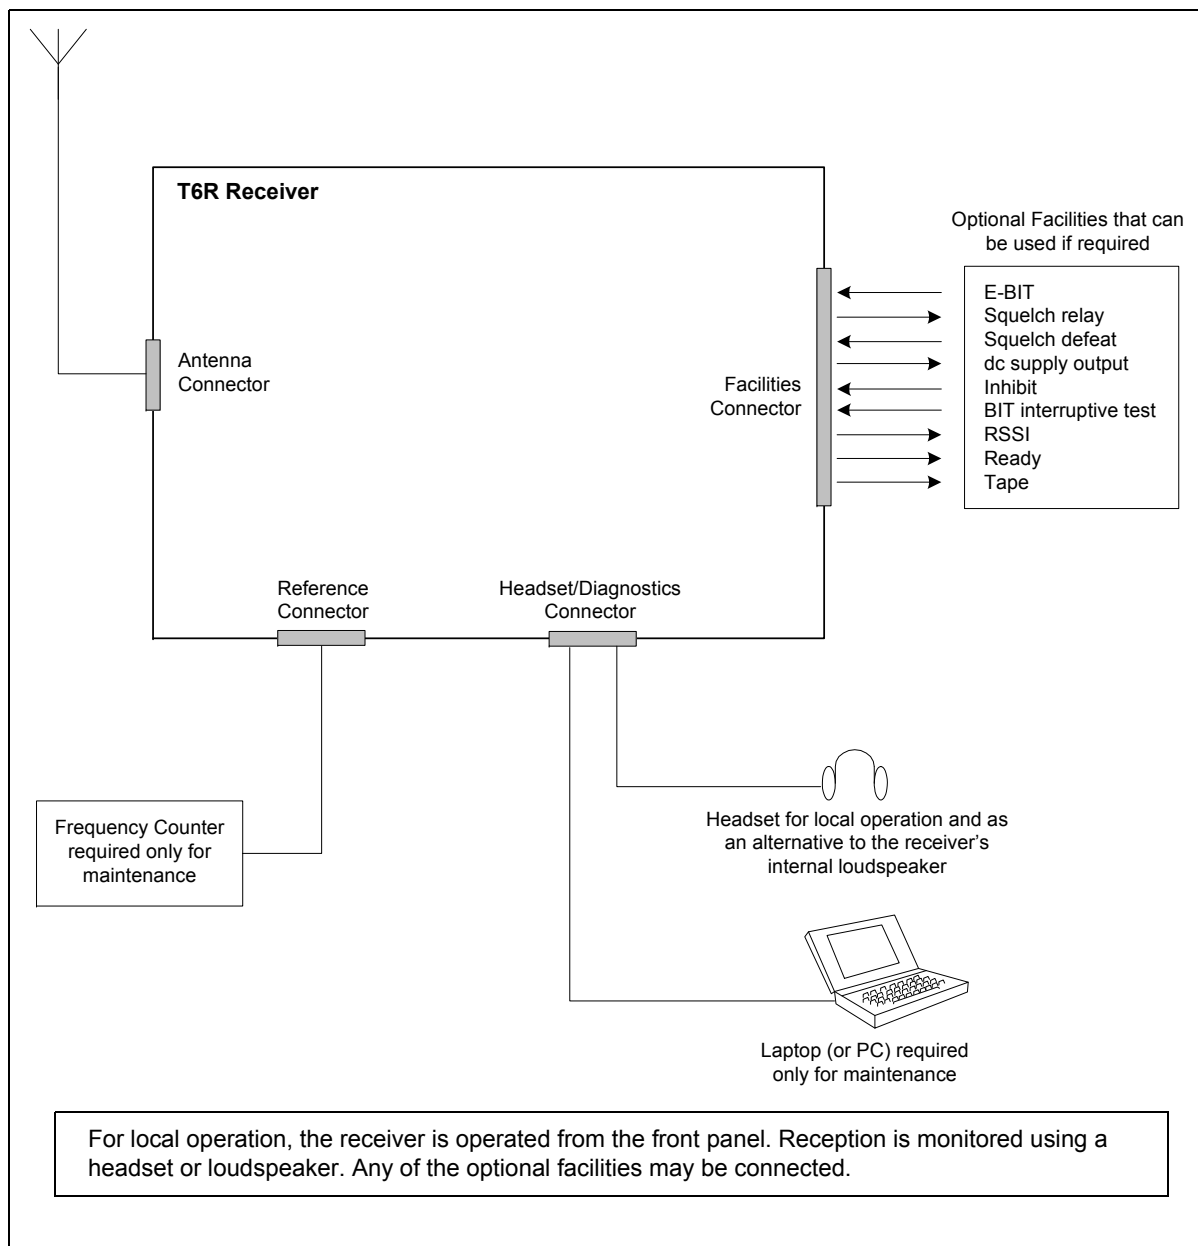
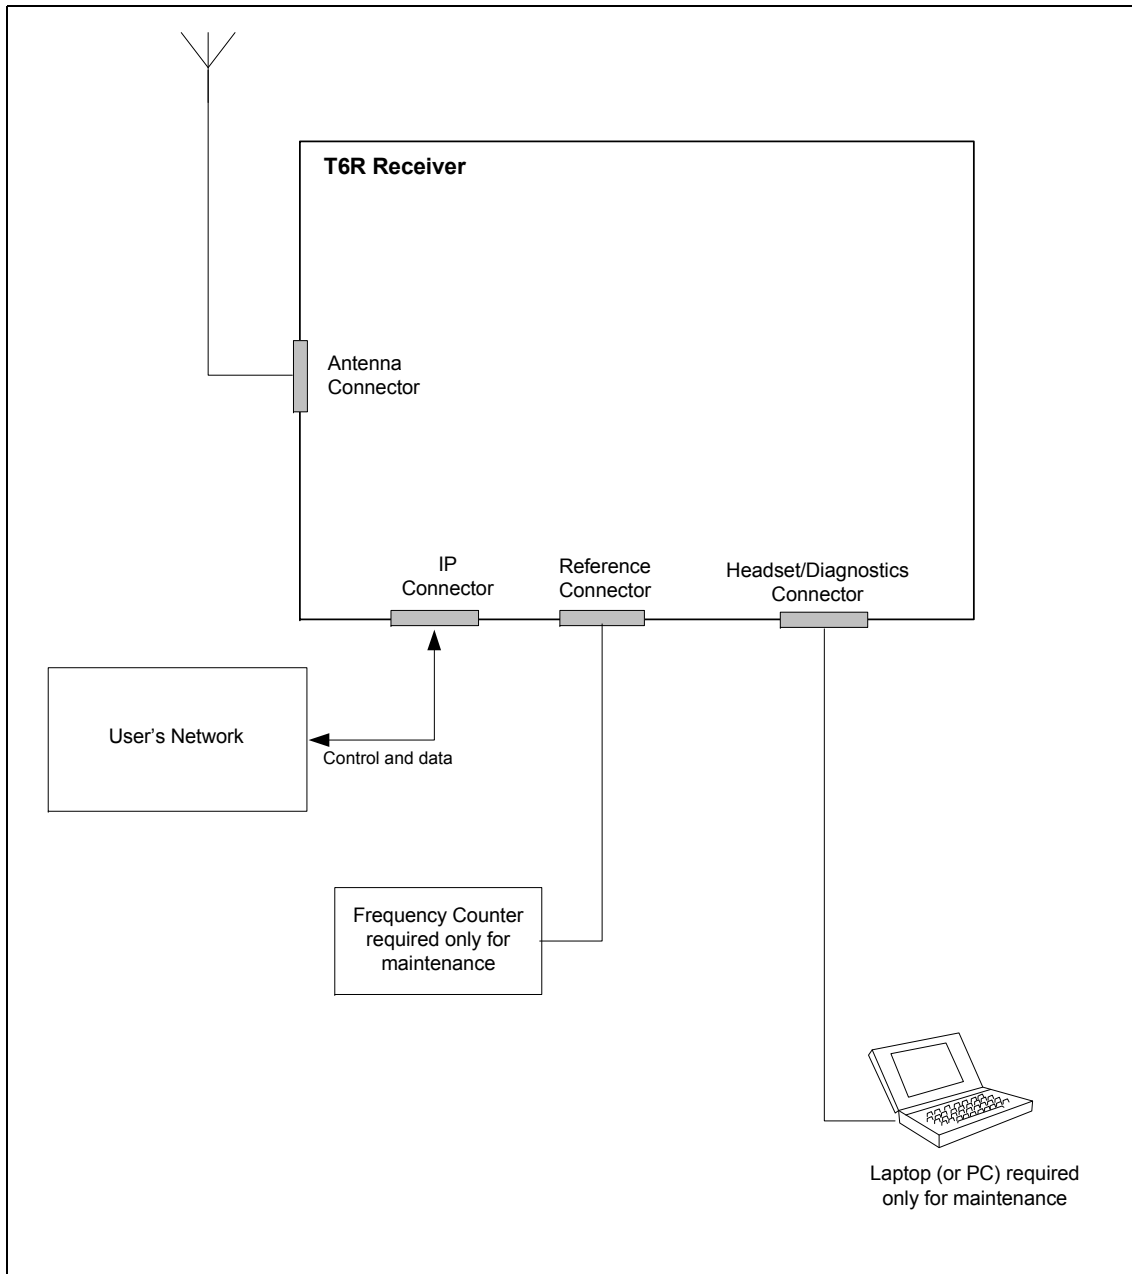

Fig 4-1 Receiver Configured for Local Operation
Fig 4-5 Receiver Ethernet Configuration
- ❑ Receiver configured for local operation (see Fig 4-1)
- ❑ Receiver Ethernet configuration (see Fig 4-5).
Making the external signal connections involves configuring the receiver to suit its operational mode. Illustrations showing various configurations are shown in Fig 4-1 to Fig 4-5; these figures should be used only as a guide.